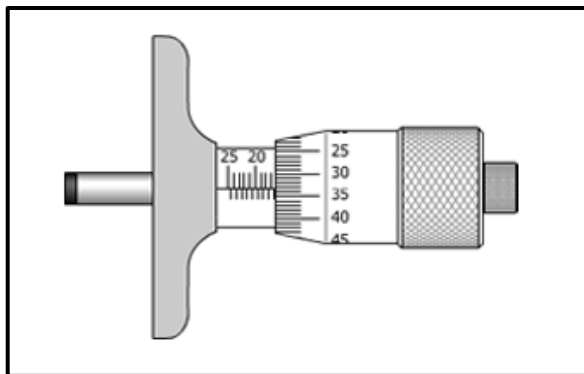

FIGURE 4.6
4.6 Identify the type of instrument shown in FIGURE 4.6 below.